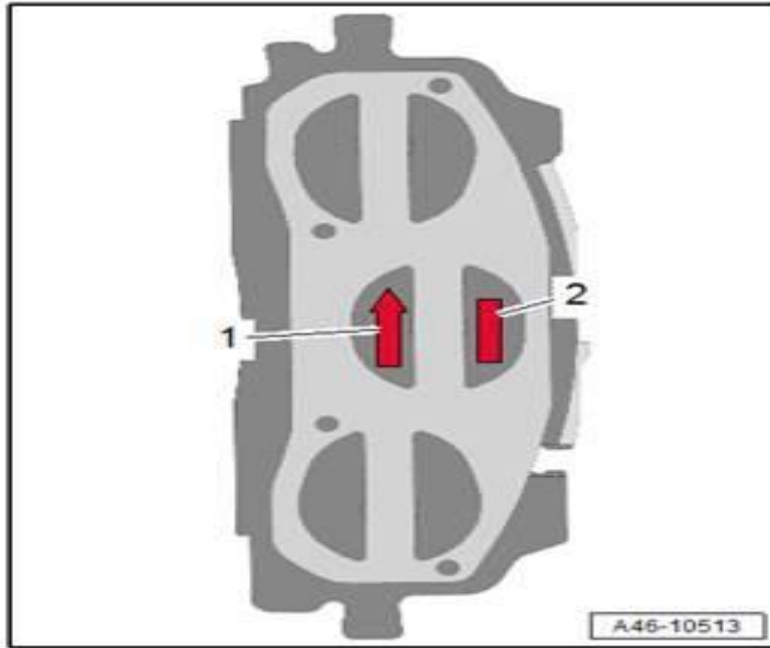

Figure 9. Correct installation position for the brake pad.
G. It is mandatory to pay attention to the labeling on the brake pad (Figure 9). Once installed the arrow (1) on the backing plate must point upward (the pads should be installed with the arrows following the forward rotation of the wheel). If available, labeling (2) indicate correct assembly position (left outer/inner, and right outer/inner).